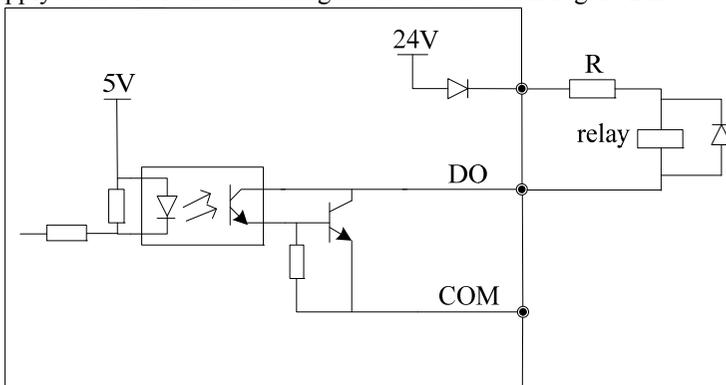

Fig. 2-26 Wiring method 1 of DO as switching output
1)Multi-function output terminals D0 as switching output can use the internal 24V power supply of inverter and the wiring method is shown in Figure 2-26.